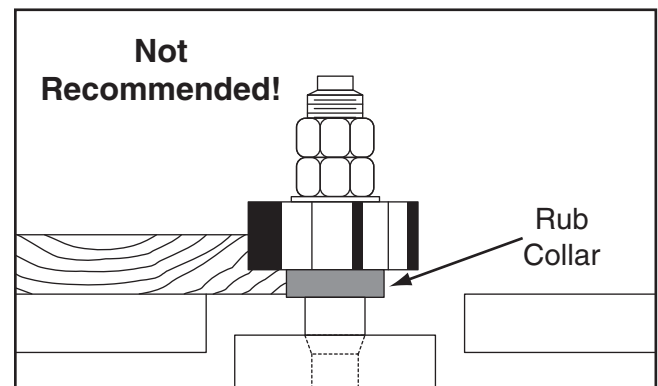

Figure 47. Cutting with rub collar below cutter.
1. **Rub collar below the cutter:** When the rub collar is placed below the cutter, as shown in **Figure 47**, the progress of the cut can be observed. However, any unintentional movement may lift the workpiece into the cutter, damaging your work and creating a dangerous situation. *We DO NOT recommend using the rub collar in this position.*